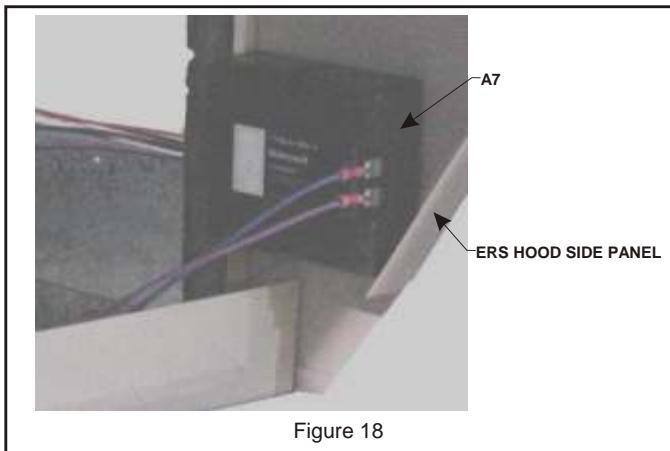

Figure 18
12. Installations using an A7 enthalpy sensor - Remove the screws to the filter access panel of the fresh air hood on the ERS and remove the air filter. Reinstall the A7 enthalpy control sensor with retained screws removed on the bottom panel of the fresh air intake hood. **See Figure 18.**